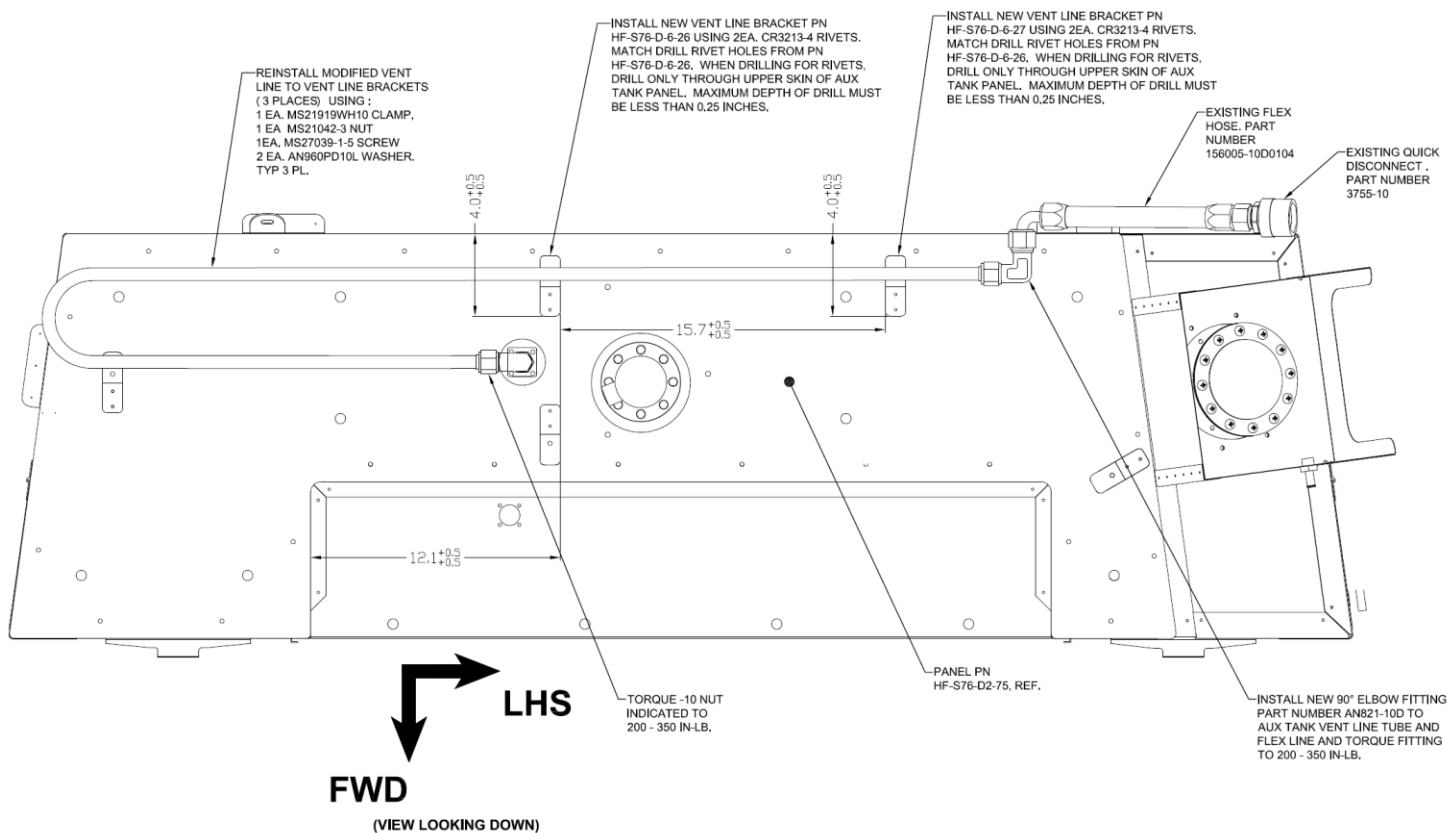

Figure 4
10. Cut existing left hand (LH) fuel tank vent line as detailed in figure 4 and 5. Deburr cut ends of existing vent line.